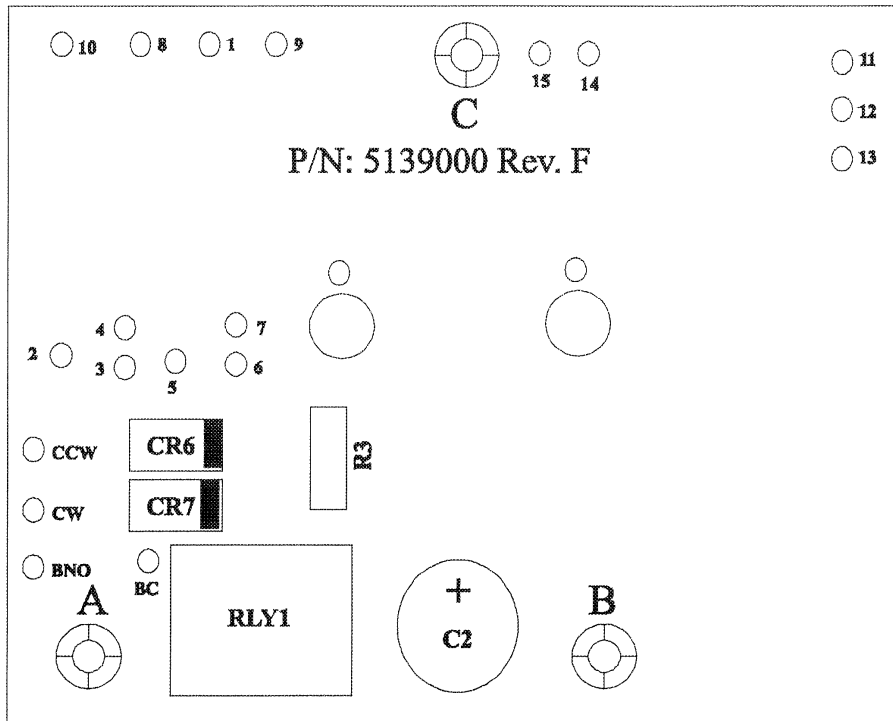

Figure 1
4. Insert one (1) of the 6-32 x 1/2" screws supplied with the kit through the mounting tab hole of the transformer. The screw will be protruding to the underside of the chassis.
5. Install one (1) of the #6 lock washers and one (1) of the 6-32 x 3/8" spacers onto the screw. Install the lock washer under the spacer. This will ensure that the spacer will not turn when the screw is tightened. Holding the spacer with the long nose pliers, tighten the screw. **DO NOT OVERTIGHTEN** the screw. Remember, you are tightening a steel screw into an aluminum spacer. The screw does not have to be tightened down real tight. Just snug.
7. Install one (1) of the #6 lock washers, one (1) of the 6-32 x 5/8" spacers and one (1) 6-32 x 5/16" screws in the mounting hole labeled **C** in Figure 1. The lock washer should be installed under the screw on top of the circuit board. Tighten the screw. **DO NOT OVERTIGHTEN** the screw. Remember, you are tightening a steel screw into an aluminum spacer.
8. Set the circuit board into the chassis, aligning mounting holes **A** and **B** with the two spacers already installed in steps 3-5. Refer to Figure 1.
9. Install one (1) 6-32 x 5/16" screw and one (1) #6 lock washer into mounting holes **A** and **B** in Figure 1. The screws must go through the top of the circuit board with the lock washer between the screw and top of the circuit board. Tighten the screws into the already mounted spacers. **DO NOT OVERTIGHTEN**. Remember, you are tightening steel screws into aluminum spacers and you can strip the treads.